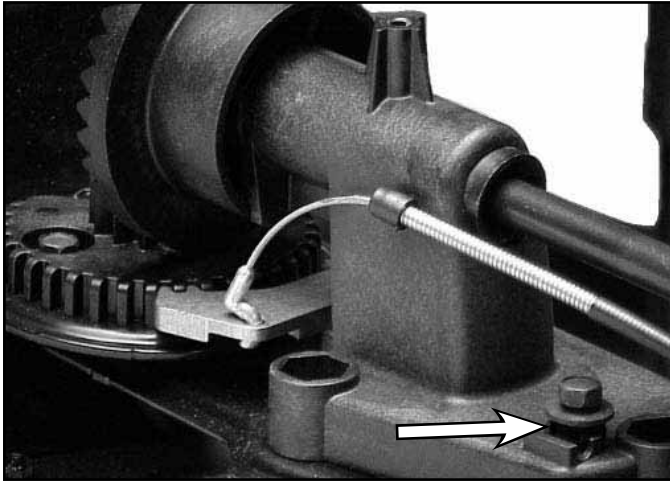

Fig 220
- Loosen the screw securing the latch cable and unhook the cable from the latch (Fig. 220).